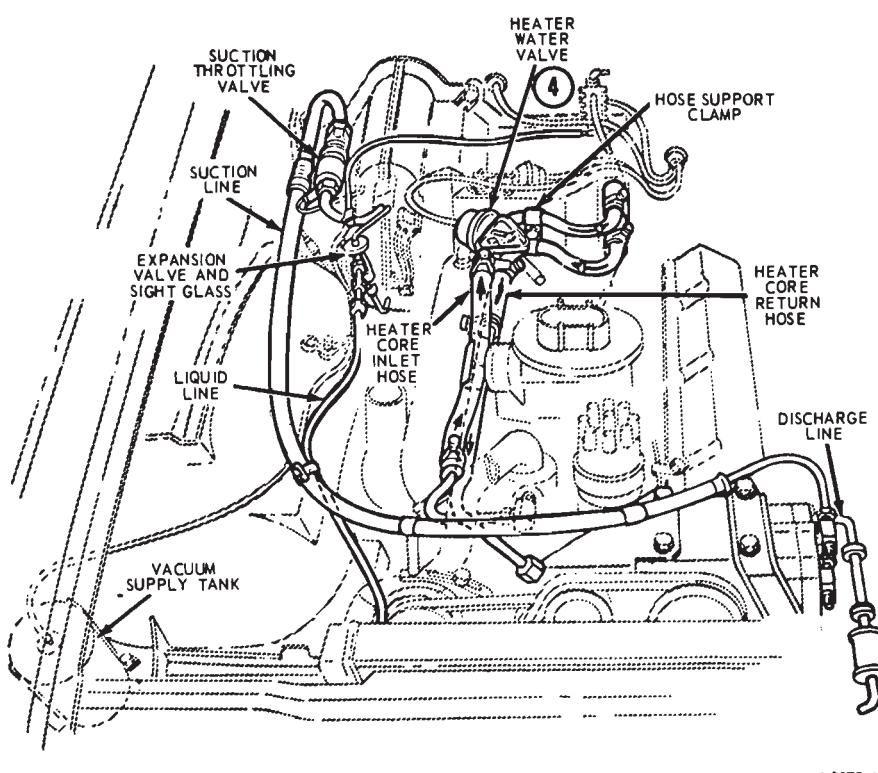

FIG. 63—Manual A/C-Heater Hose Routing—Lincoln Continental
15. Connect the suction tube, evaporator outlet tube and the liquid bleed line to the suction throttling valve (Figs. 63 and 59).
The refrigerant and heater hose routings are shown in Fig. 63.